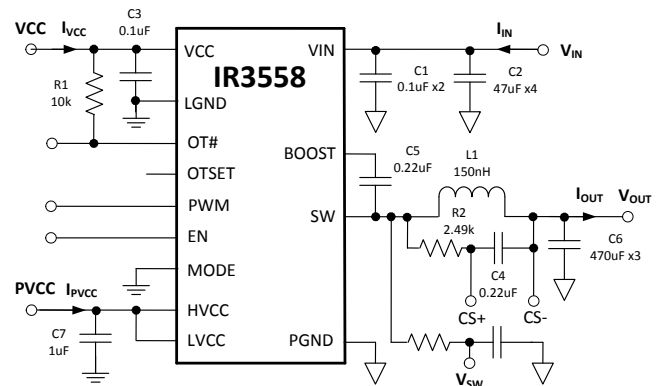

Figure 32: IR3558 Power Loss Measurement
Circuit of Figure 32,  $V_{IN}=12V$ ,  $V_{OUT}=1.2V$ ,  $f_{SW}=400kHz$ ,  $L=150nH$  (0.29mΩ),  $V_{CC}=5V$ ,  $HV_{CC}=LV_{CC}=7V$ ,  $T_{AMB}=25^{\circ}C$ , no heat sink, no air flow, 8-layer PCB board of 3.7" (L) x 2.6" (W), no PWM controller loss, no inductor loss, unless specified otherwise.
Circuit of Figure 32,  $V_{IN}=12V$ ,  $V_{OUT}=1.2V$ ,  $f_{SW}=400kHz$ ,  $L=150nH$  ( $0.29m\Omega$ ),  $V_{CC}=5V$ ,  $HVCC=LVCC=7V$ ,  $T_{AMB}=25^{\circ}C$ , no heat sink, no air flow, 8-layer PCB board of 3.7" (L) x 2.6" (W), no PWM controller loss, no inductor loss, unless specified otherwise.
Circuit of Figure 32,  $V_{IN}=12V$ ,  $V_{OUT}=1.2V$ ,  $f_{SW}=400kHz$ ,  $L=150nH$  ( $0.29m\Omega$ ),  $V_{CC}=5V$ ,  $HV_{CC}=LV_{CC}=7V$ ,  $T_{AMB}=25^{\circ}C$ , no heat sink, no air flow, 8-layer PCB board of 3.7" (L) x 2.6" (W), no PWM controller loss, no inductor loss, unless specified otherwise.
The single-phase IR3558 efficiency and power loss measurement circuit is shown in Figure 32.